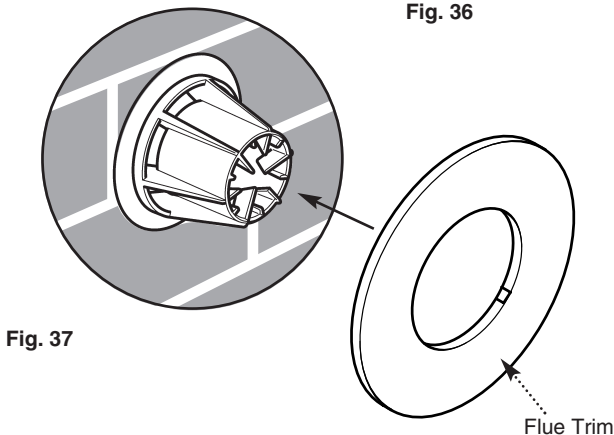

Fig. 37
4. The flue trim provided may be fitted if required, to neaten the make-up around the terminal (Fig. 37).